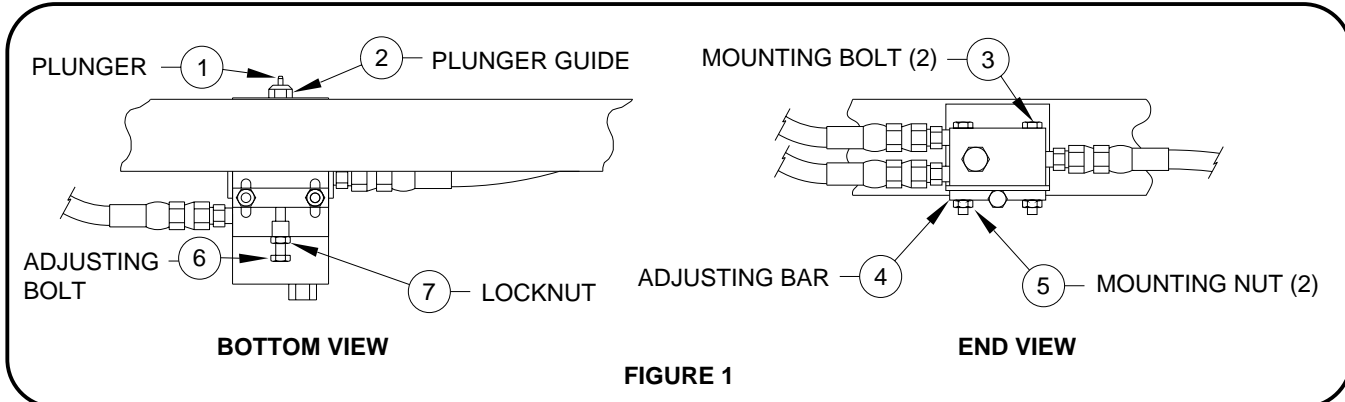

FIGURE 1
- Loosen the rack sensing mounting bolts. (3 & 4, FIGURE 1)
- Remove the adjusting bolt and lock nut. (6 & 7, FIGURE 1)
- Remove the three hydraulic lines from the valve. Remove the mounting bolts and valve adjusting bar. (5, FIGURE 1)
Adjust the valve so that approximately one half the plunger (1, FIGURE 1) is showing. Close the valve release "T" handles. Make the final adjustment of the rack sensing valve. (See the ADJUSTMENT procedure below). Tighten the mounting bolts and check for leaks and the fluid level in the power unit.
rack sensing valve in or out using the valve adjusting bolt. (6, FIGURE 1) Loosen the rack sensing valve mounting bolts (3&5, FIGURE 1) and the adjusting lock nut. (7, FIGURE 1) Do not tighten these until the adjustment is complete. Refer to FIGURE 2 or 3 depending on which side of the room is leading, for the proper adjustment of the valve.
If the valve side of the room is moving at a closer distance to the vehicle (FIGURE 2) turn the adjusting bolt (6, FIGURE 1) counter clockwise 1 turn. **NOTE :** If the difference is minor, less than 1 turn may be appropriate. Extend the room an additional 12 inches. Retract the room that 12 inches and check the measurement. Repeat this procedure as necessary. The difference in the measurement should be 1/2 an inch or less. Tighten the mounting bolts and adjusting lock nut when the adjustment is complete.